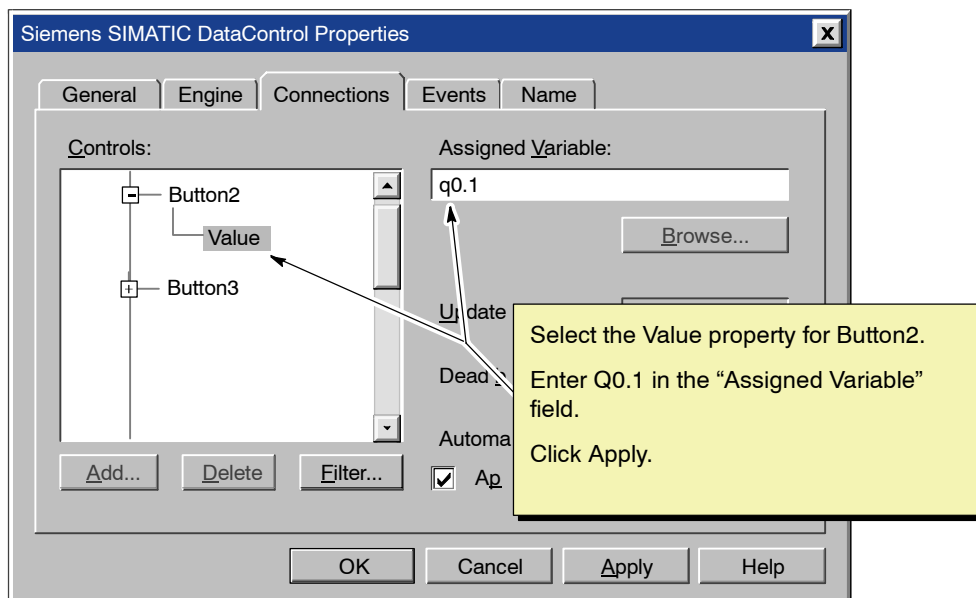

Figure 3-16 Assigning the Variable for Button2
- With the Value property for Button2 selected, enter **q0.1** in the "Assigned Variable" field. See Figure 3-16.